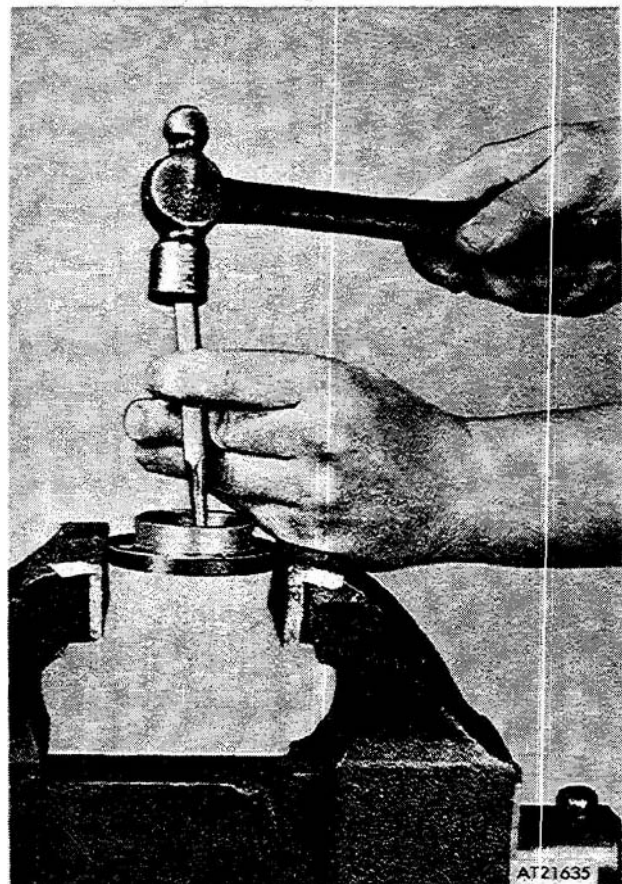

Figure 4-11. Removing input shaft seal.
(21) Remove spring (13), retainer plate (14), disc (15), cam (16), and balls (17) from safety brake housing (20).
(22) Remove hub (18) from safety brake housing (20). Remove key (19) from worm input shaft (7).
(23) Disconnect safety brake housing (20) and brake housing gasket (21) from gear housing (6) by removing screw (22).
(24) Remove key (1) from worm input shaft (7).
(25) Remove sleeve (25) from bearing retainer (2) and disconnect bearing retainer (2) and bearing retainer gasket (3) from gear housing (6) by removing screw (24).
(26) Remove input shaft seal (4) from bearing retainer (2) as shown in figure 4-11.